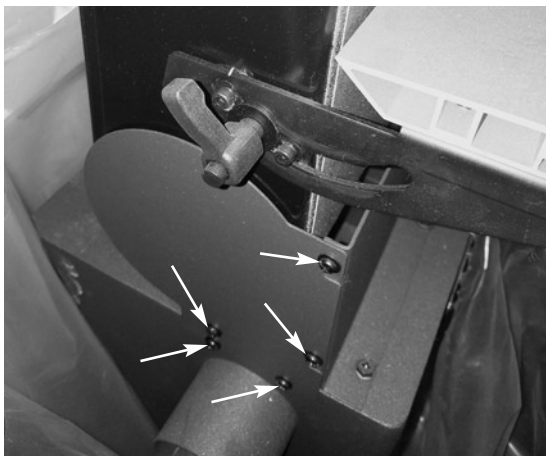

Figure 22
3. Remove the 5 screws from the lower cover (Figure 22)